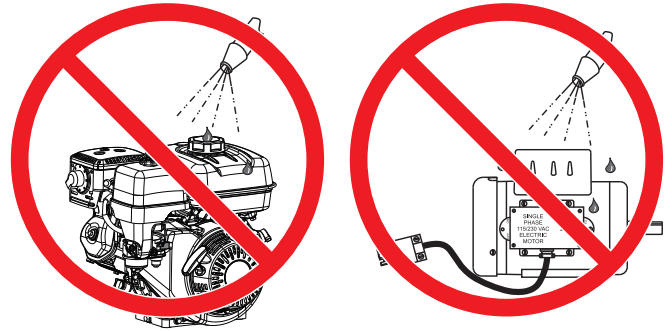

Figure 48. No Spraying of Water
**NEVER** pour or spray water over the engine or electric motor (Figure 48).